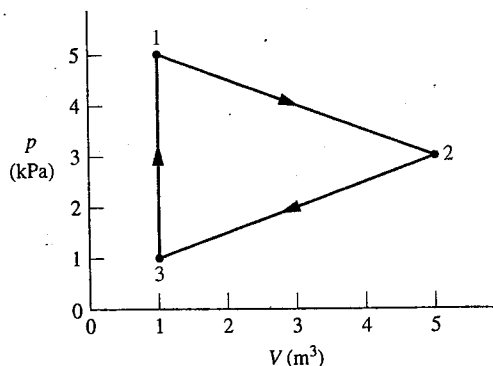

Fig. P2.73
**2.73** Figure P2.73 shows a power cycle executed by a gas in a piston–cylinder assembly. For process 1–2,  $U_2 - U_1 = 15 \text{ kJ}$ . For process 3–1,  $Q_{31} = 10 \text{ kJ}$ . There are no changes in kinetic or potential energy. Determine (a) the work for each process, in kJ, (b) the heat transfer for processes 1–2 and 2–3, each in kJ, and (c) the thermal efficiency.